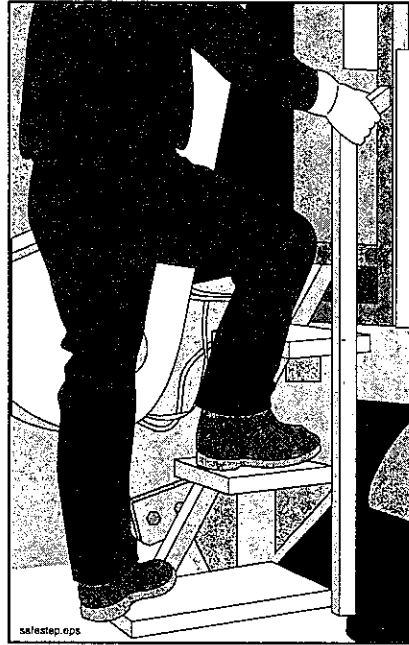

Figure 69
- ▲ **WARNING!** Mount or dismount the pump or truck using the *3 point rule*. One hand and two feet or two hands and one foot are to be in contact with a secure surface at all times (Figure 69).